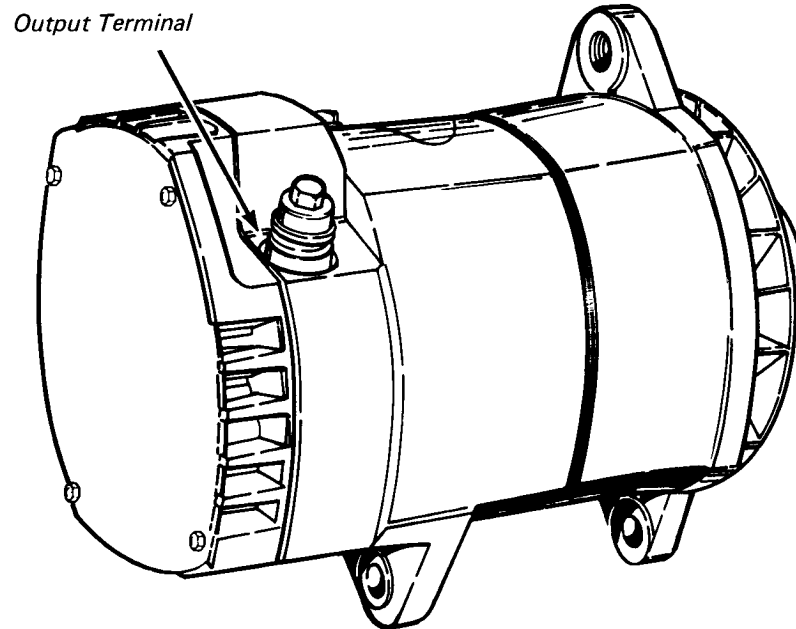

Fig. 1
- Step 1. Switch off. Connect voltmeter from positive output terminal to ground at negative output terminal. See Fig. 1. Voltmeter should read battery voltage. If the voltmeter reads less than battery voltage, check wiring and connections.